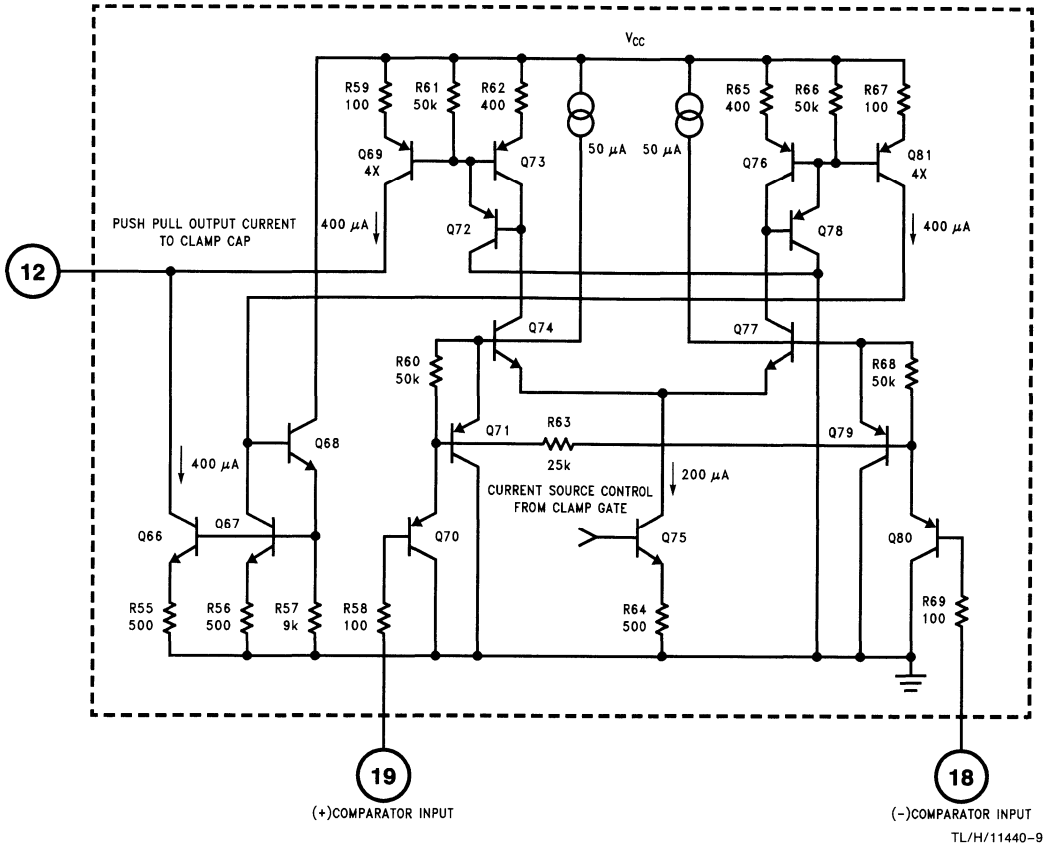

FIGURE 8. Simplified Schematic of the LM1202 Clamp Comparator Circuit
*Figures 7 and 8* show simplified schematics of the clamp gate and clamp comparator circuits. The clamp gate circuit (*Figure 7*) consists of a PNP input buffer transistor (Q82), a PNP emitter coupled pair (Q85 and Q86) referenced on one side to 2.1V and an output switch transistor Q89. When the clamp gate input at pin 14 is high ( $> 1.5V$ ) the Q89 switch is on and shunts the 200  $\mu A$  current from current source Q90 to ground. When pin 14 is low ( $< 1.3V$ ) the Q89 switch is off and the 200  $\mu A$  current is mirrored by the current mirror comprised of Q91 and Q75 (see *Figure 8*). Consequently the clamp comparator comprised of the differential pair Q74 and Q77 is enabled. The input of the clamp comparator is similar to the clamp gate except that an NPN emitter coupled pair is used to control the current that will charge or discharge the clamp capacitor externally connected from pin 12 to ground. PNP transistors are used at the inputs because they offer a number of advantages over NPNs. PNP's will operate with base voltages at or near ground and will usually have a greater emitter base breakdown voltage (BVebo). Because the differential input voltage to the clamp comparator during the video scan period could be greater than the BVebo of NPN transistors, a resistor (R63) with a value one half that of R60 or R68 is connected between the bases of Q71 and Q79. The clamp comparator's common mode range is from ground to approximately 9V and the maximum differential input voltage is  $V_{CC}$ .